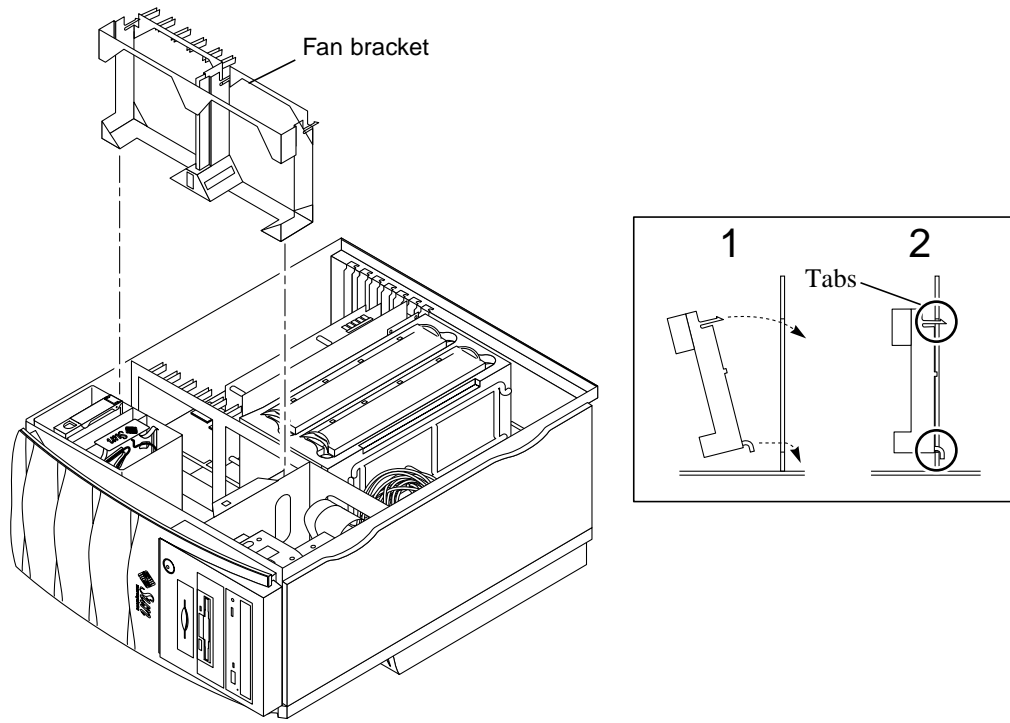

FIGURE 6-14 Removing and Replacing the Fan Bracket
2. Disconnect the fan assemblies from the motherboard (FIGURE 6-14).
See FIGURE 6-14.
1. **Replace the fan assemblies (FIGURE 6-14).**